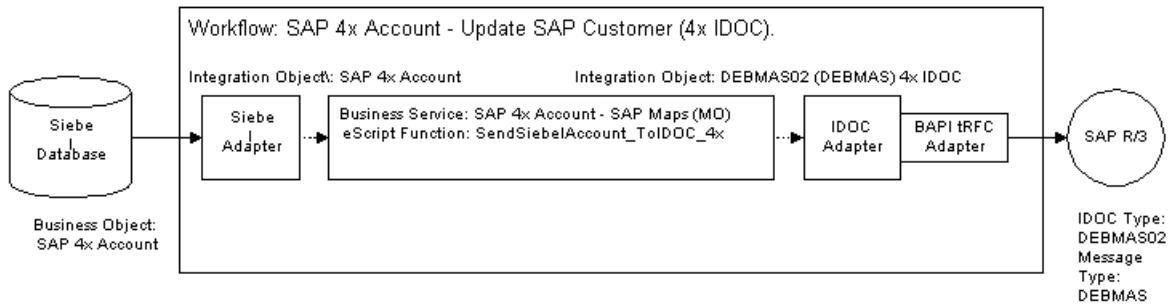

Figure 6. Business Data Flow Using IDOC Adapter
In this business data flow, the Siebel Adapter extracts the account information. It passes an integration object instance containing this data to a business service data map, which converts it into a BAPI input integration object. Then it passes the integration object instance to the BAPI adapter and makes a call to SAP to create the customer. An additional call (not shown in Figure 6) commits the customer created in SAP. SAP returns the customer ID. The customer ID then resides in the BAPI Output integration object instance and this is passed to another business service data map. This business service data map creates a Siebel integration object instance with the name of the customer ID contained within it and this is used to update the Siebel Database.
Figure 6 shows the second business data flow, which updates the customer through an IDOC. The IDOC can pass in more information for the customer than the BAPI call. In particular, an IDOC can pass sales area information for the customer but a BAPI cannot. The figure illustrates the SAP 4x Account-Update SAP Customer (4x IDOC) workflow, which consists of the Siebel Adapter passing a record to the SAP 4x Account - SAP Maps (MO) business service. The SAP 4x Account - SAP Maps (MO) business service passes the record to the IDOC Adapter, which uses the BAPI tRFC Adapter to pass the record to SAP R/3 using the DEBMAS02 IDOC type.